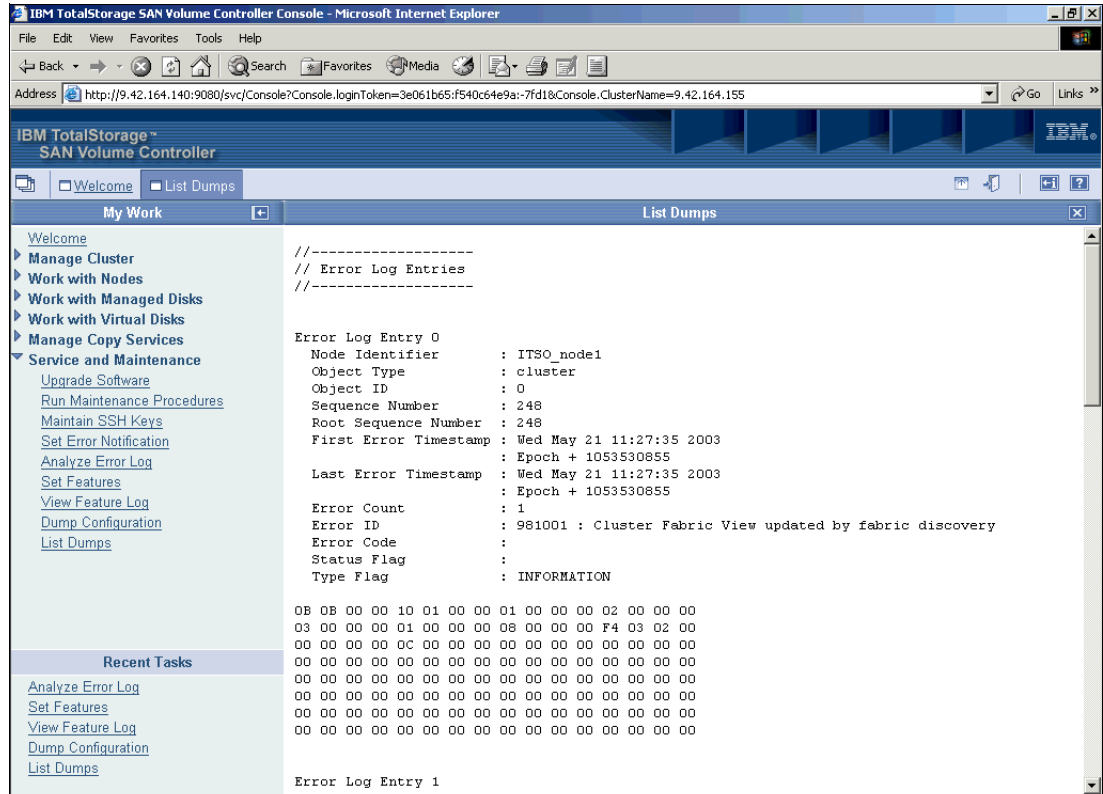

Figure 9-98 List Dumps: Error log detail
- Click any of the available log file links (indicated by the underlined text) to display the log in complete detail as shown in Figure 9-98.